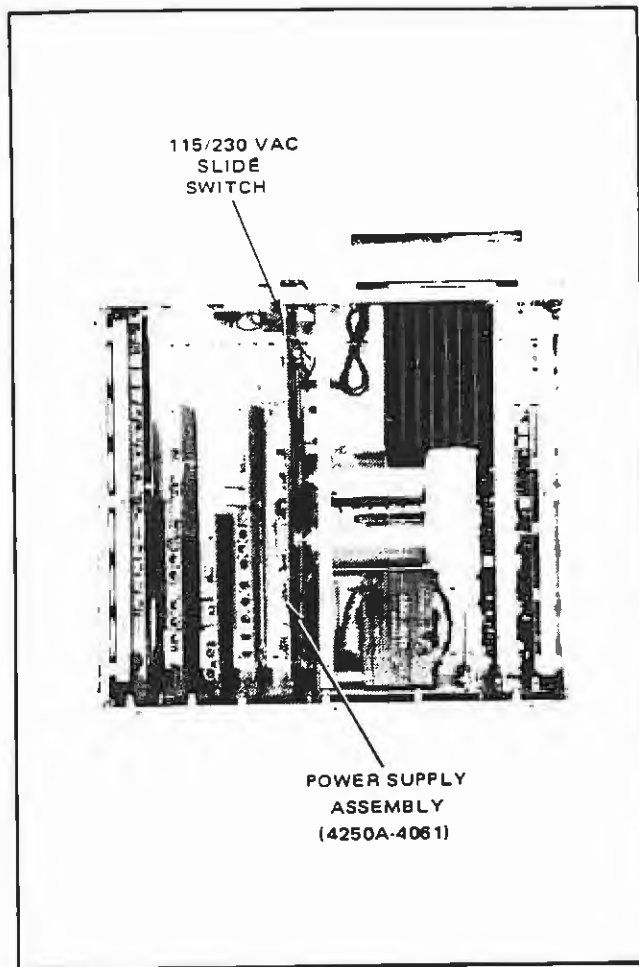

Figure 2-1. 115/230 VAC POWER CONVERSION
- c. Locate the Power Supply Assembly and 115/230 slide switch shown in Figure 2-1.